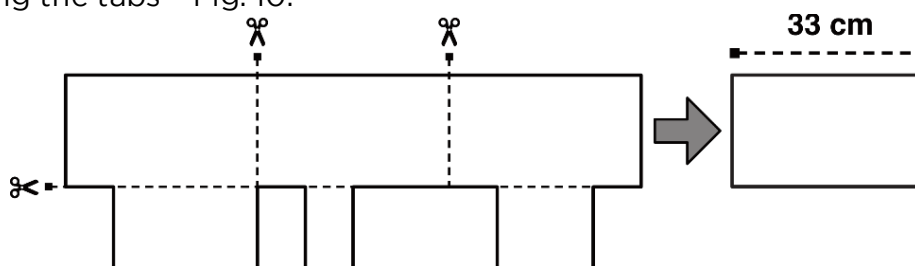

Fig. 10 - Ridge elements preparation
- Arrange the ridge elements by cutting an entire shingle into three pieces and removing the tabs - Fig. 10.